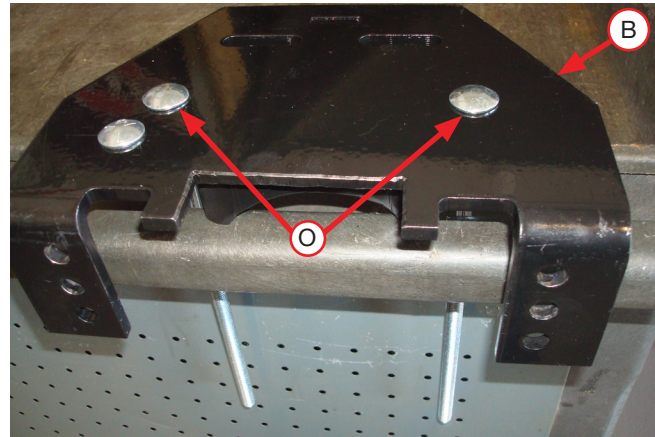

Fig. 12
5. Insert two 3/8"-16 x 10" carriage bolts (O) through the remaining square holes in the lower bracket (B) (Fig. 12).